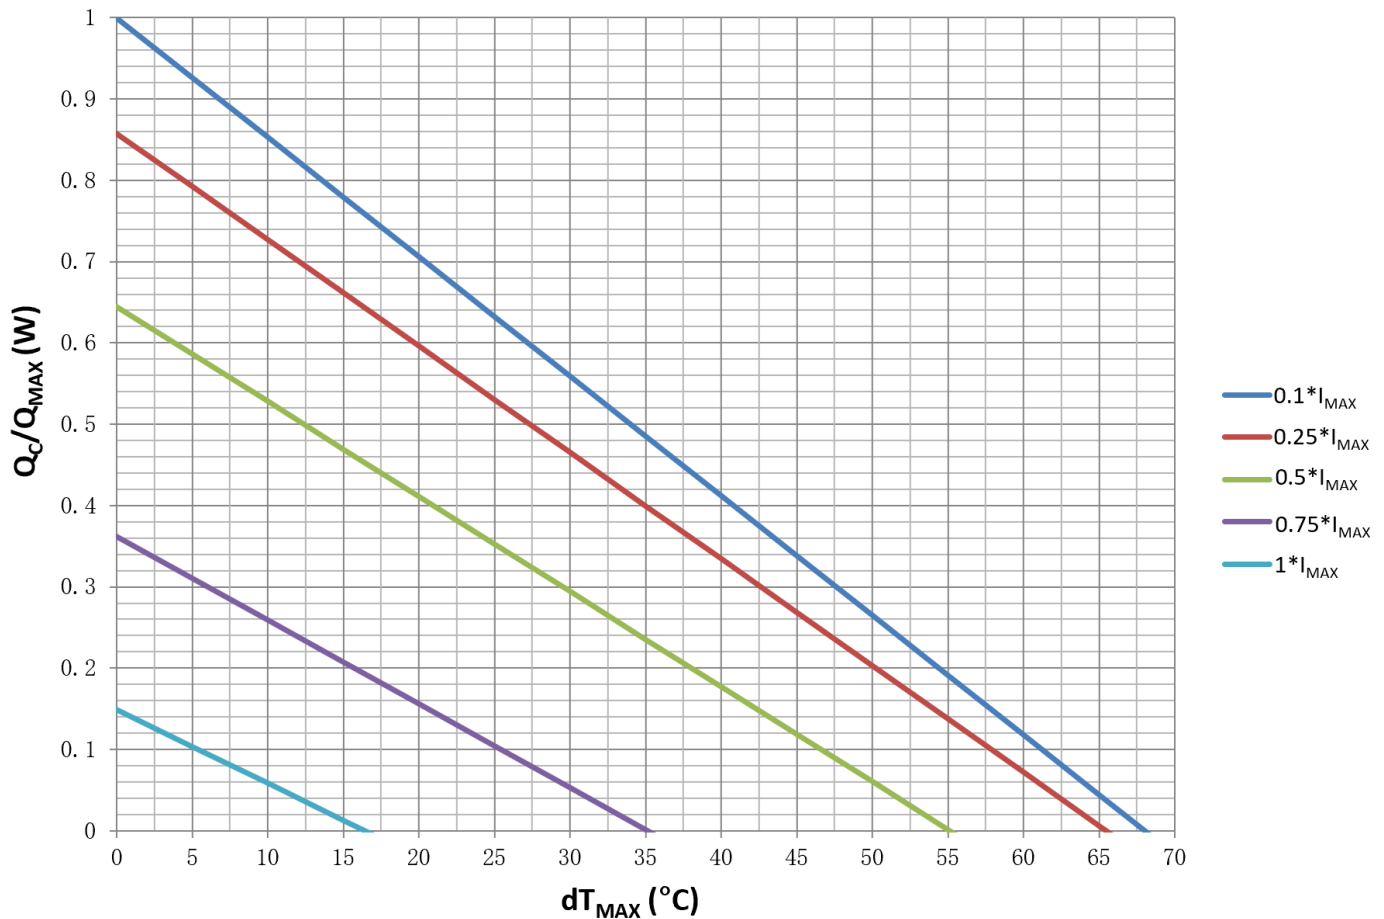
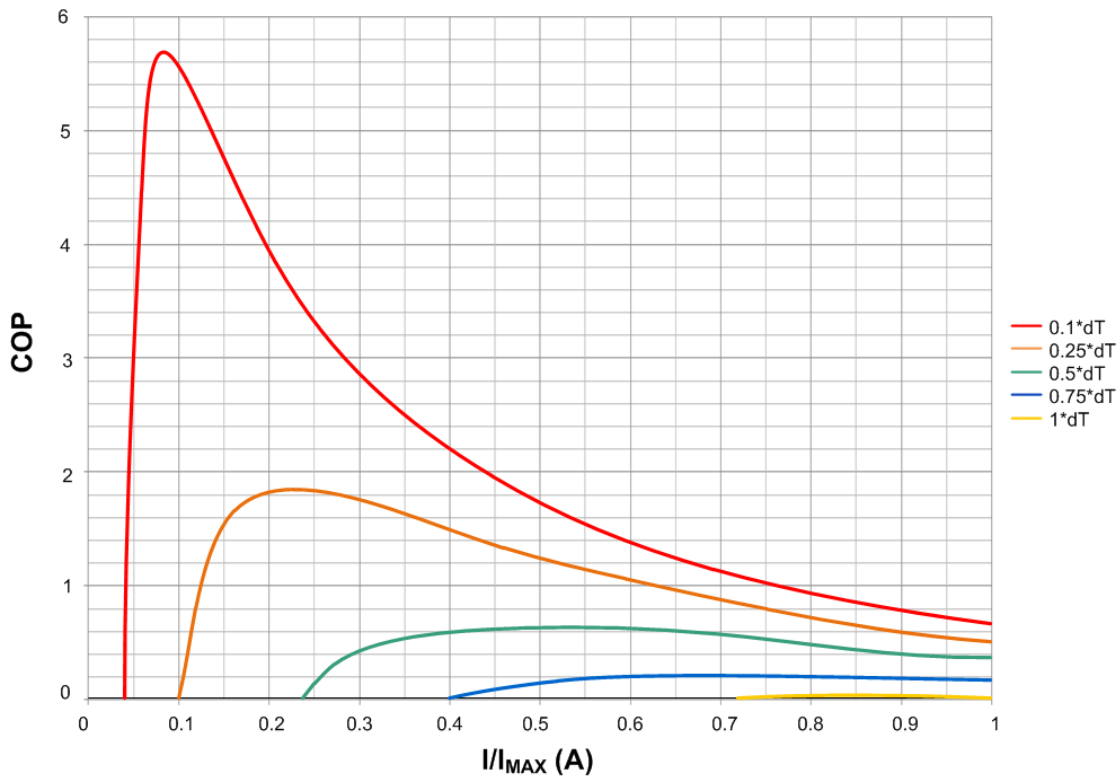
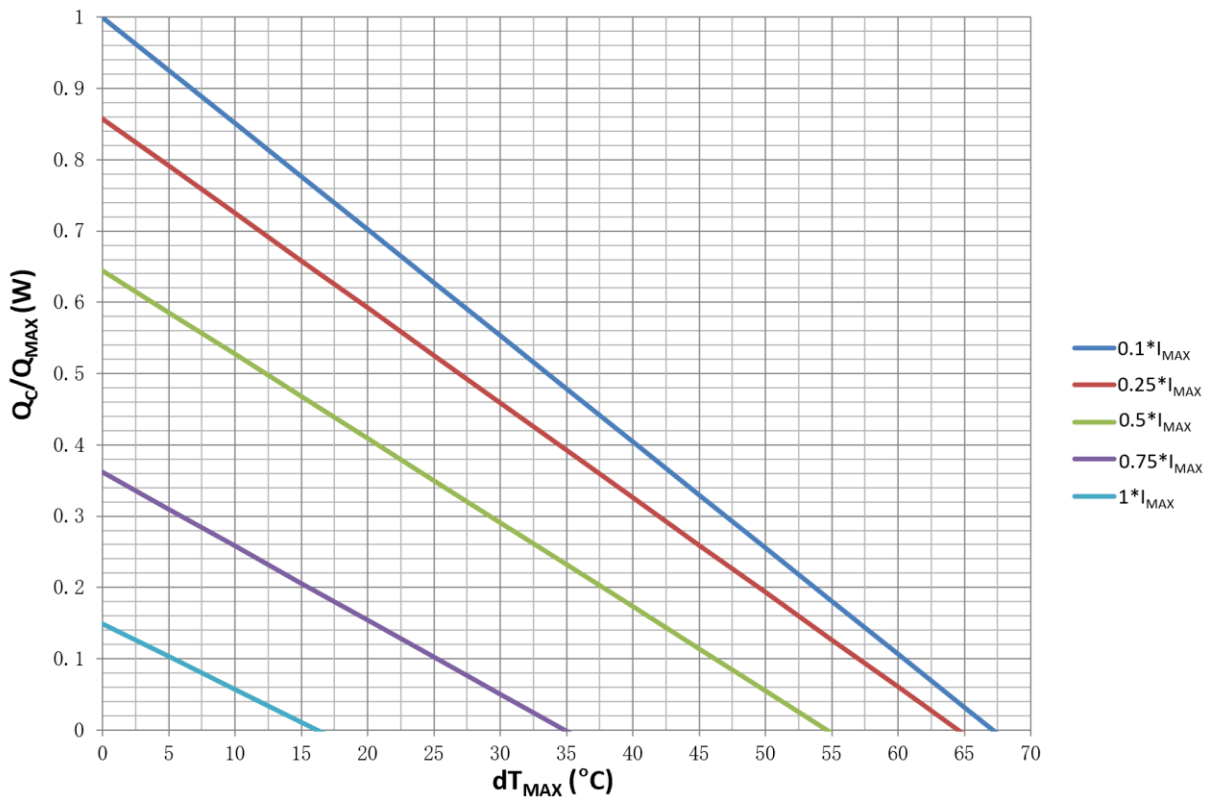
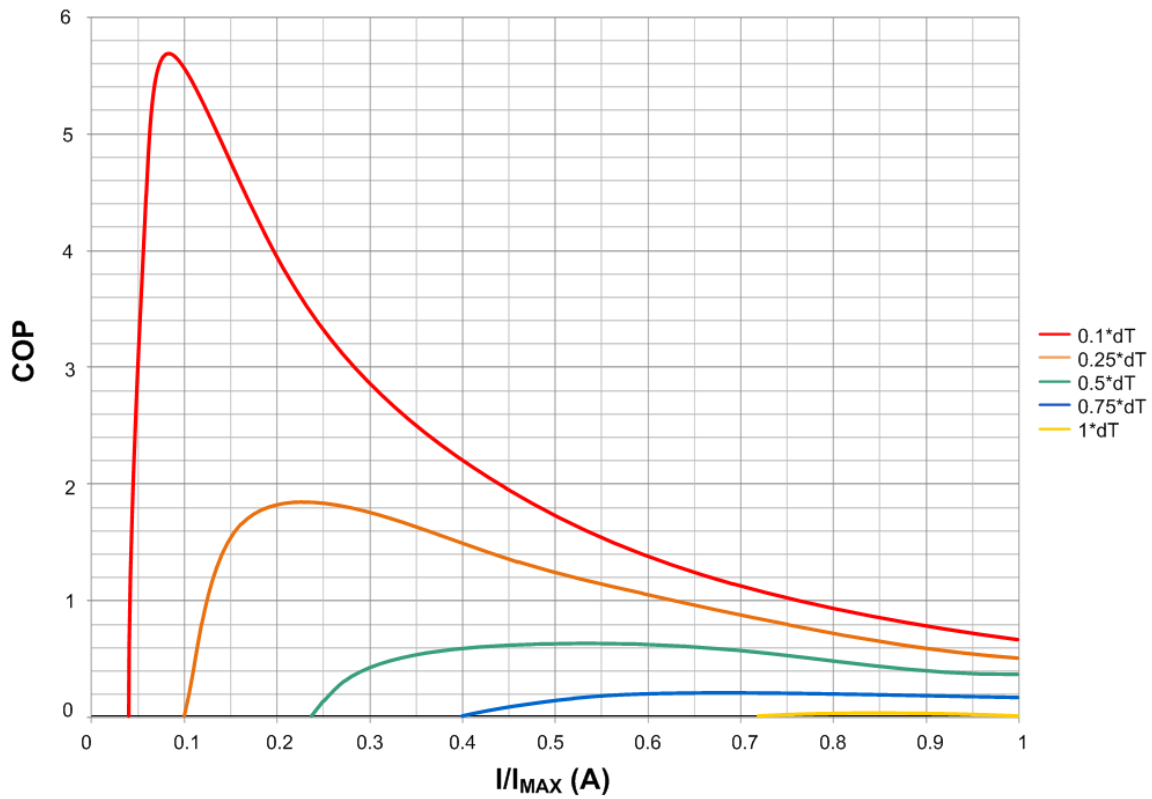

Figure 2. Q_c/Q_{MAX} vs. dT_{MAX}
Figure 5. COP vs. I/I_{MAX}
Figure 6. Q_c/Q_{MAX} vs. dT_{MAX}
Figure 9. COP vs. I/Imax
5. Use the charts provided in Figure 2 to Figure 5 and Figure 6 to Figure 9, to decide which TEC to use, what is the heat needed to be dumped through the heat sink, what is the heat sink temperature, etc.